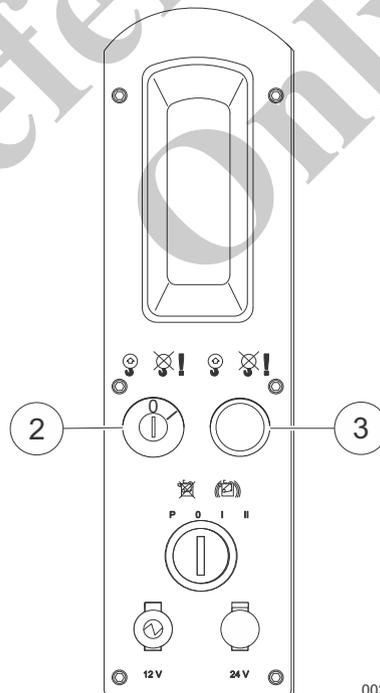

Fig. 69 LML controls
- 1 To bypass the LML, turn the key switch (2) in Fig. 69 while pressing the push-button (3) in Fig. 69.
The bypass is terminated by releasing the key switch (2) in Fig. 69 or the push-button (3) in Fig. 69, or by turning the ignition off then back on again.